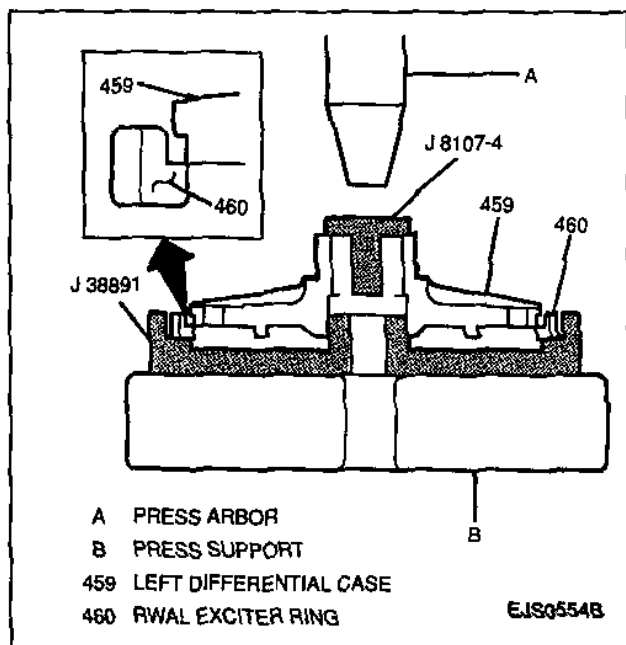

Figure 55—Installing Speed Sensor Exciter Ring Onto Left Differential Case
Figures 55 through 88
1. Rear wheel antilock (ABS) speed sensor exciter ring onto left differential case half using a J 38891 exciter ring installer and a J 8107-04 (Figure 55). Place the exciter ring inside the J 38891 on a hydraulic press. Then, center the left differential case half in the exciter ring with a J 8107-4 side in the left axle shaft bore and slowly press the left differential case half evenly into the exciter ring.